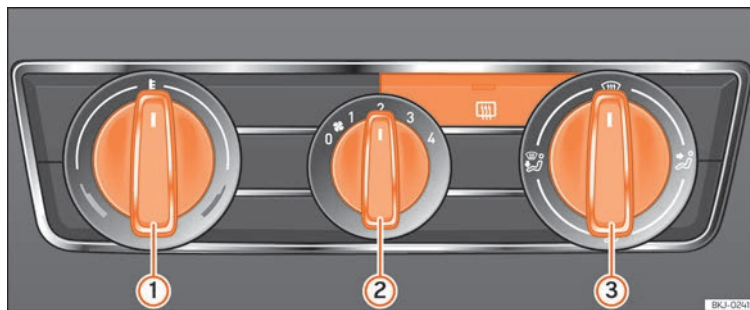

Fig. 170 Heating controls on the dash panel.
- Turn the temperature selector » Fig. 170 ① anti-clockwise.
»» Fig. 170 ① clockwise to select the required temperature.
- Turn blower switch ② to any of the levels 1-4.
- Set the airflow to the desired direction using air distribution control ③.
»» Fig. 170 ① clockwise to reach the maximum temperature.
- Turn the blower switch ② to level 4.
»» Fig. 170 ① to the heating zone.
- Turn blower switch ② to any of the levels 2-3.